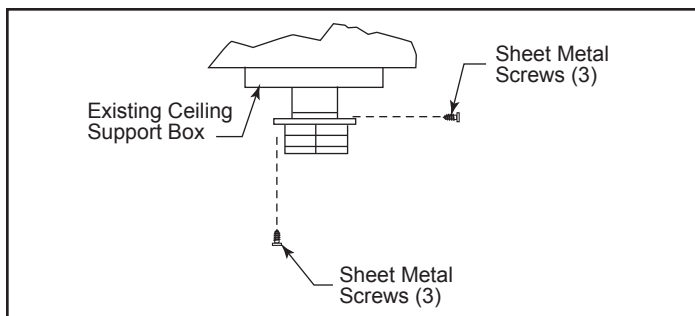

Figure 47
6. Push the flex pipe back up into the ceiling support box, center the retro connector and attach it to the support box or decorative sleeve for double wall solid packed pipe, with the sheet metal screws furnished. The holes in the retro connector are pre-punched, Figure 47.